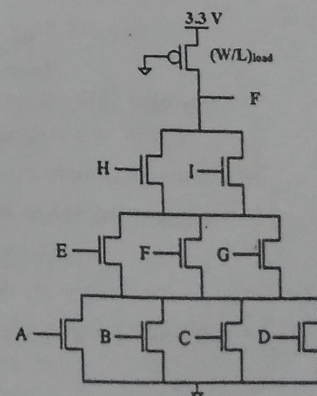

Fig.1
(B) Fig. 1 shows a complex Or And Invert gate. The (W/L) value of all the pull down transistors are 5/1. Find out the following:
Q4 The layout shown in figure 1 all PMOS transistors have width $W_p=10\text{ }\mu\text{m}$, and all NMOS transistor has width $W_n=5\text{ }\mu\text{m}$. The length for both NMOS and PMOS transistor are equal (i.e. $L_n=L_p=1\text{ }\mu\text{m}=2\lambda$).